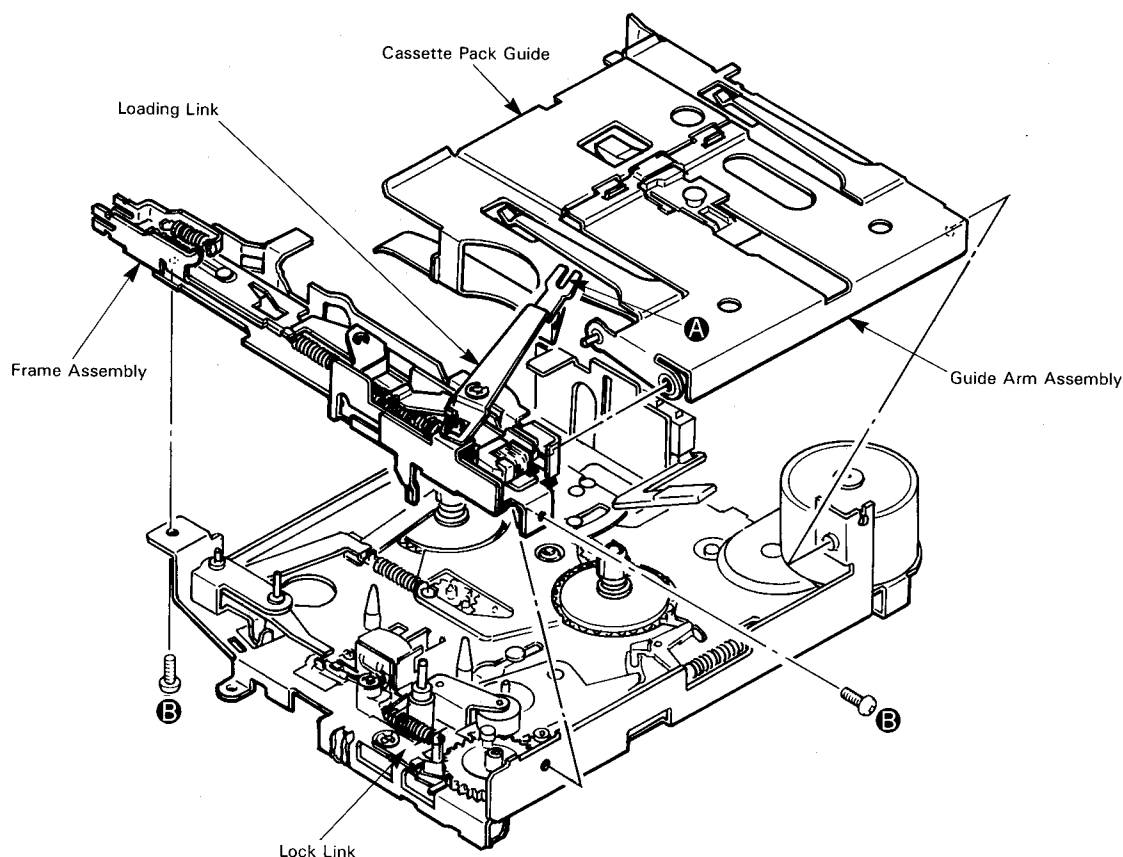
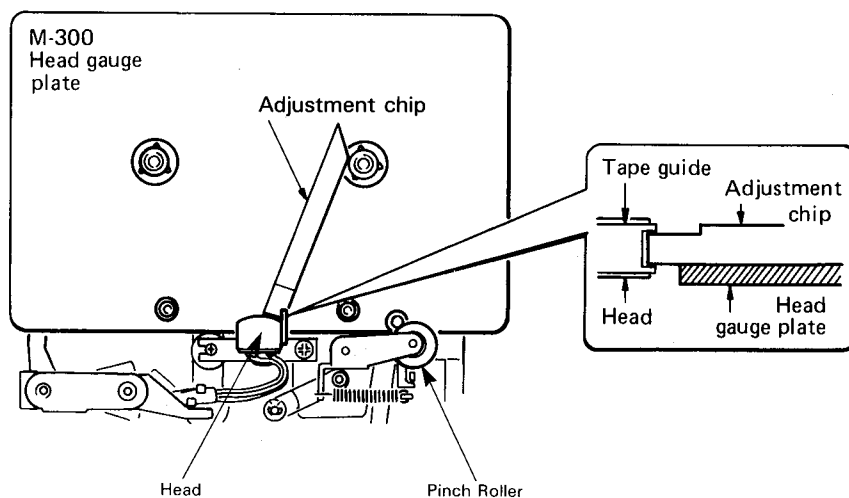

Fig. 1
Fig.2
① Head replacement
2. Remove the **A** portion of the Loading Link. (See Fig.1)
3. Remove the 2 screws **B** in Fig.1 and remove the Frame Assembly, Cassette Pack Guide and Guide Arm Assembly, and then replace the head.
② Head height confirmation
3. Check to make sure that the adjustment chip does not contact the tape guide of the head. (See Fig.2)